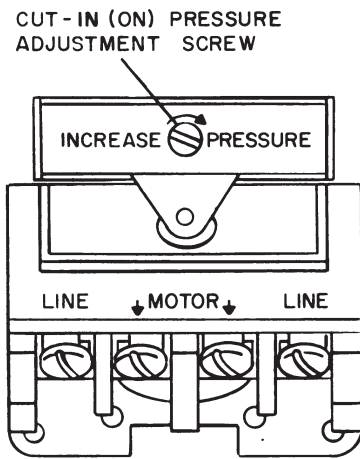

FIGURE 3
D. Conduit and electrical connections to the Pressure Switch are to be made in accordance with the requirements of the Authority Having Jurisdiction and/or the National Electrical Code. Refer to Figure 3 for identification of the wiring terminals.
If necessary, remove the cover from the Pressure Switch and adjust the cut-in pressure adjustment screw shown in Figure 3. The cut-in pressure changes approximately 1.5 psi (0.1 bar) per half-turn of the screw.